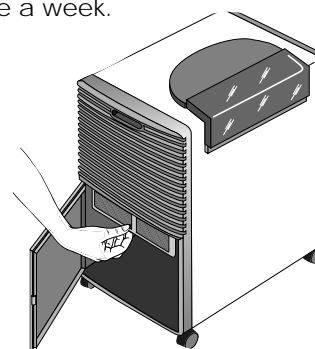

fig. 5
- To remove the air filter, extract by pulling it as shown in fig. 5.